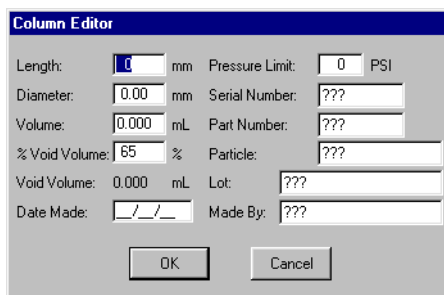

Figure 4-21 Column Editor Dialog Box
- To create a new column entry, click the **New** button. To edit a column entry, select the column and click the **Edit** button. The Column Editor dialog box is displayed (Figure 4-21).